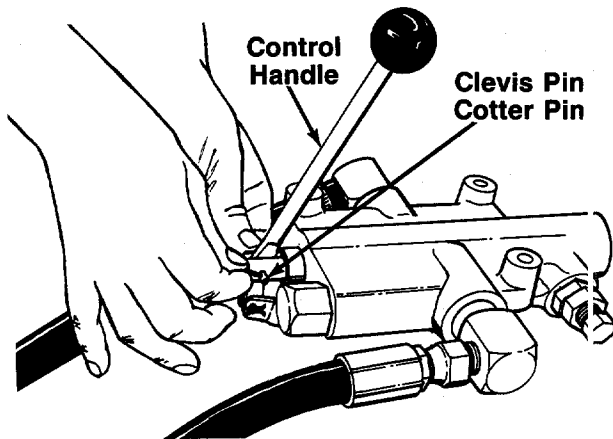

FIGURE 7.
- Place the handle in position, and secure using the clevis pin and cotter pin. Secure by bending the ends of the cotter pin in opposite directions. See figure 7.